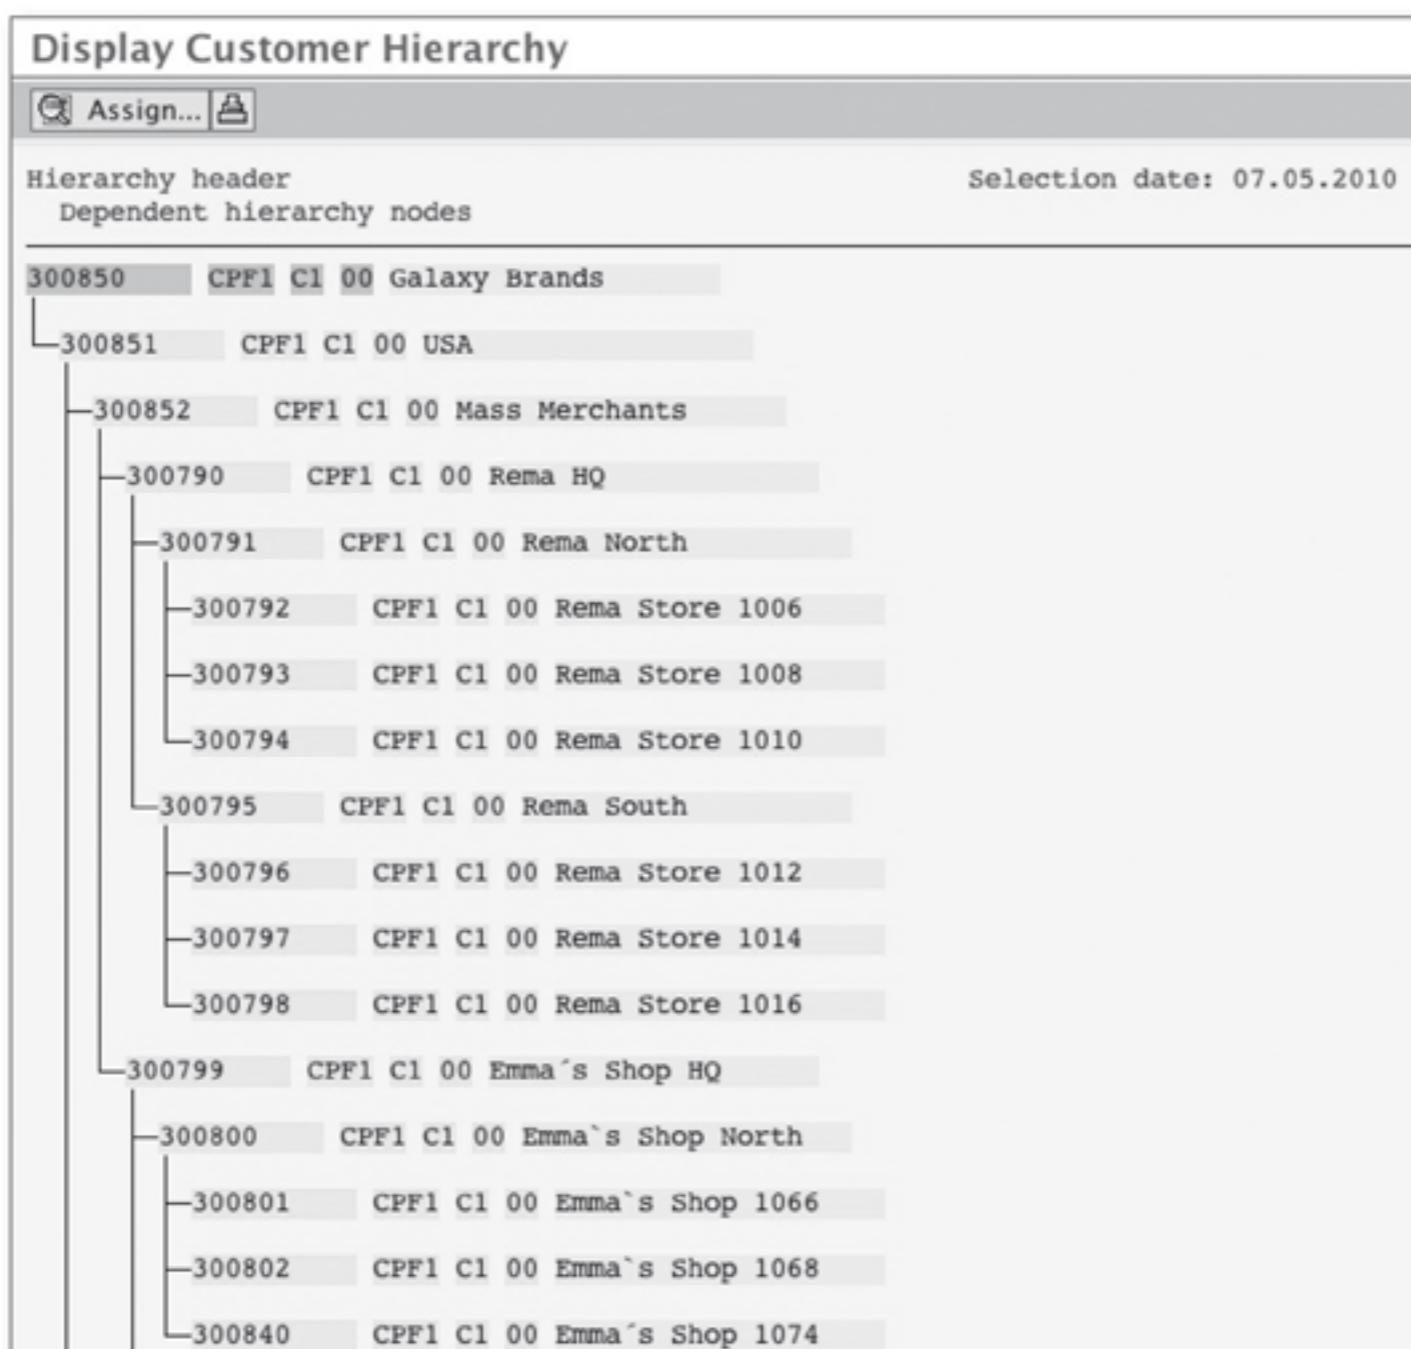

Figure 6.2 Display Customer Hierarchy Result
2. Enter the customer you want to display, and click Execute. The results, as shown in Figure 6.2, show a tree view of the customer hierarchy.